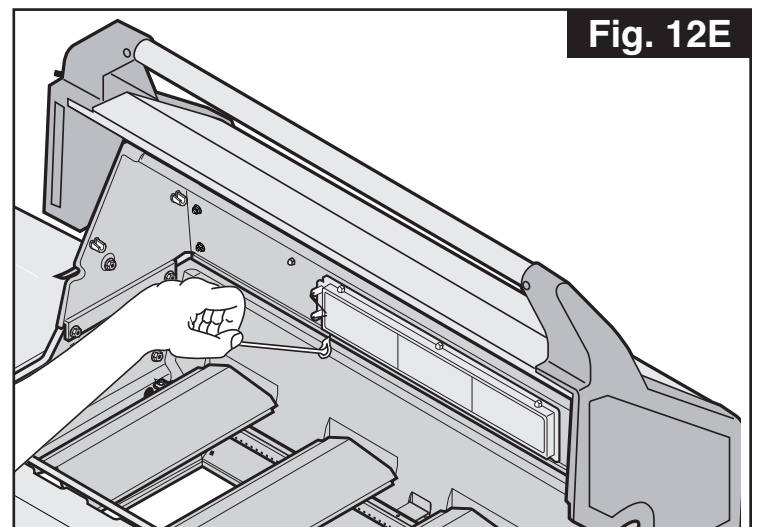

Fig. 12E
2. Place an ignited lighter or lit match near the ports, approximately 1/2" (1.25 cm) from burner (see Figure 12E).